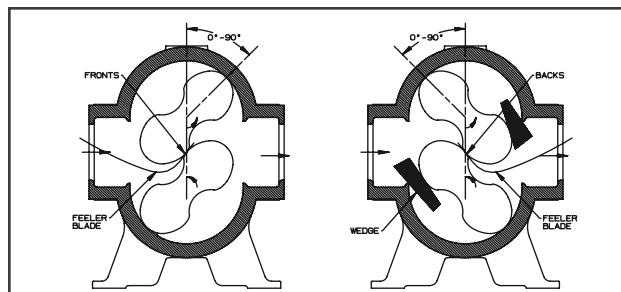

Figure 17 - Impeller Timing Viewed from End RAS/RGS Standard Rotation
2. Use a set of feeler gauges with blades about 12" (300 mm) long for measuring clearances between the impeller lobes. These clearances are identified as "front" and "backs", and are measured with the impellers in the positions shown in Figures 17 and 18. The drive shaft rotation indicated is **counter-clockwise**. For opposite rotation, impeller positions will be reversed from that shown in Figures 17 and 18 and the front and back identifications will be interchanged. Fronts may be defined as the lobes that tend to contact during rotation because of pressure load and gear tooth wear; conversely, backs are the surfaces that tend to separate.